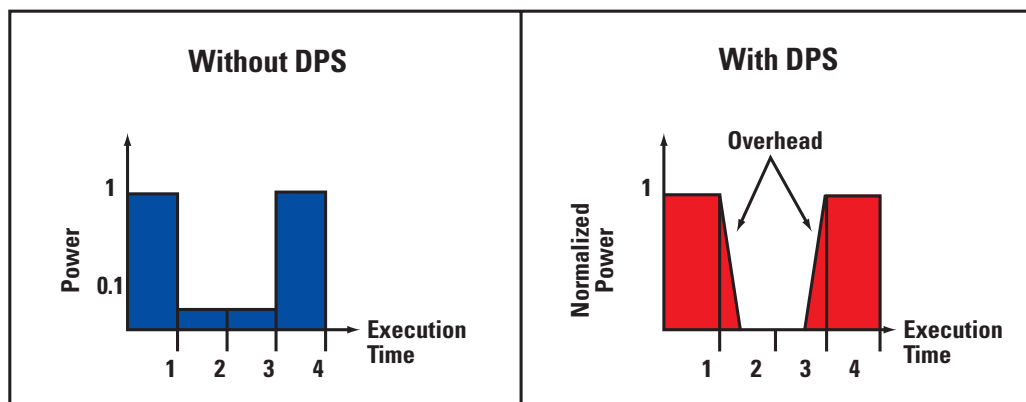

Figure 3. In dynamic power switching (DPS), parts of an OMAP35x device switch to a low-power state after completing their tasks.
**DPS** Although these first two methods of active power management find the minimum operating voltage necessary to run part of an OMAP35x device at the desired speed, DPS essentially determines when part of a device has completed its current computational tasks, is not needed at the moment, and puts it into a low-power state (Figure 3, next page).